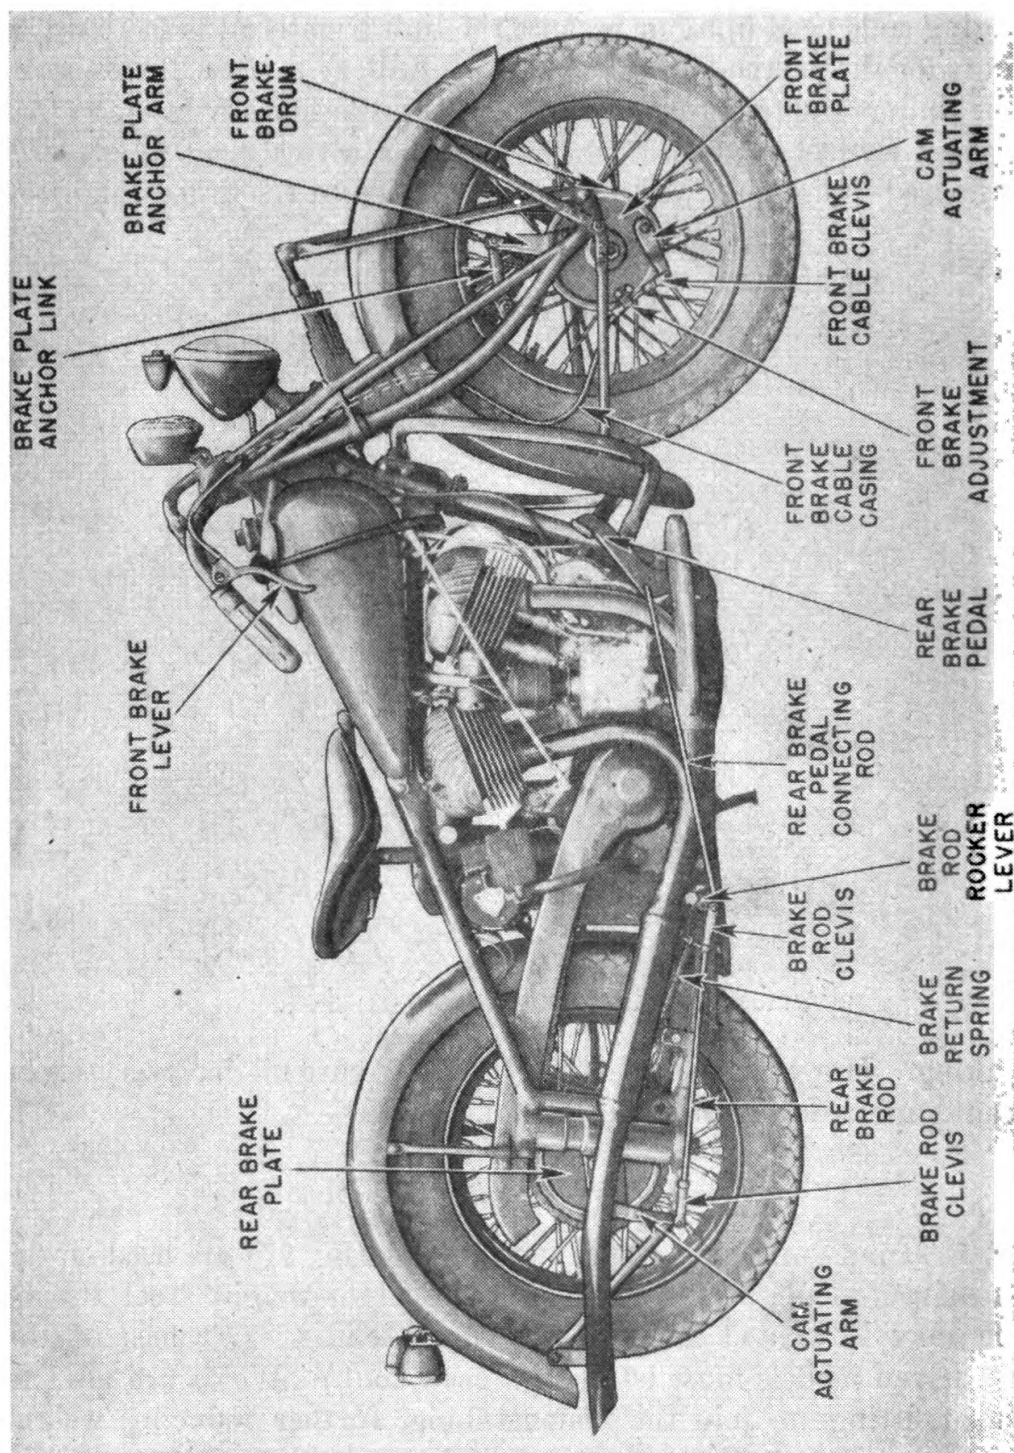

FIGURE 37.—Front and rear brake linkage.
c. Figure 37 shows the operating linkage of front and rear brakes. The front or rear brake is adjusted by shortening or lengthening the brake linkage at the clevises.